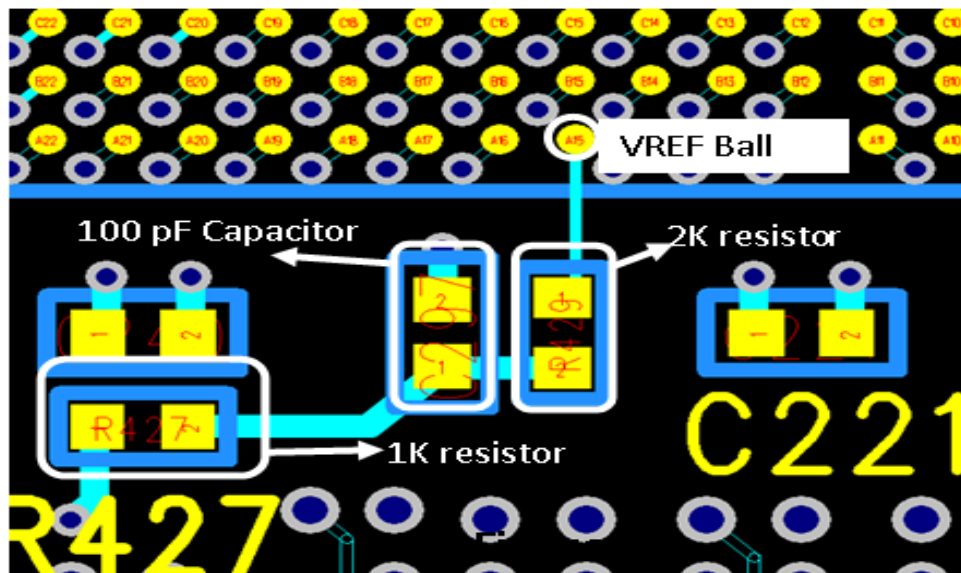

Figure 12. Recommended Placement and Routing for DMC_VREF Filtering Network
- Place the recommended RCR network between the DMC_VREF supply paths from the memory to the processor, as shown in Figure 12. For more details, refer to the ADSP-SC589 EZ-Board schematics^[3].